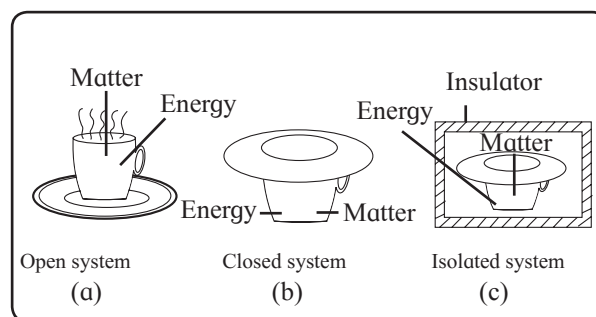

Fig. 4.2 : Kinds of systems
Observe Fig. 4.2 and discuss with reference to transaction of energy and matter.
Three types of systems are shown in Fig. 4.2.
i. Open system : Fig. 4.2(a) shows an open cup containing hot coffee placed in a room. You observe coffee cools down releasing heat to the surroundings. The water vapour from coffee simultaneously passes into
ii. Closed system : In Fig. 4.2(b), a cup containing hot coffee is covered with a saucer. Coffee cools down by giving away heat to the surroundings. The water vapour from coffee now does not pass into surroundings. Such a system that exchanges energy and not the matter with the surroundings is called a closed system.
iii. Isolated system : As you see in Fig. 4.2(c), a cup containing hot coffee covered with a saucer is insulated from the surroundings. Coffee does not cool down. Moreover, there is no escape of water vapour into the surroundings. Such a system that does not allow exchange of either energy or matter with the surroundings is an isolated system.